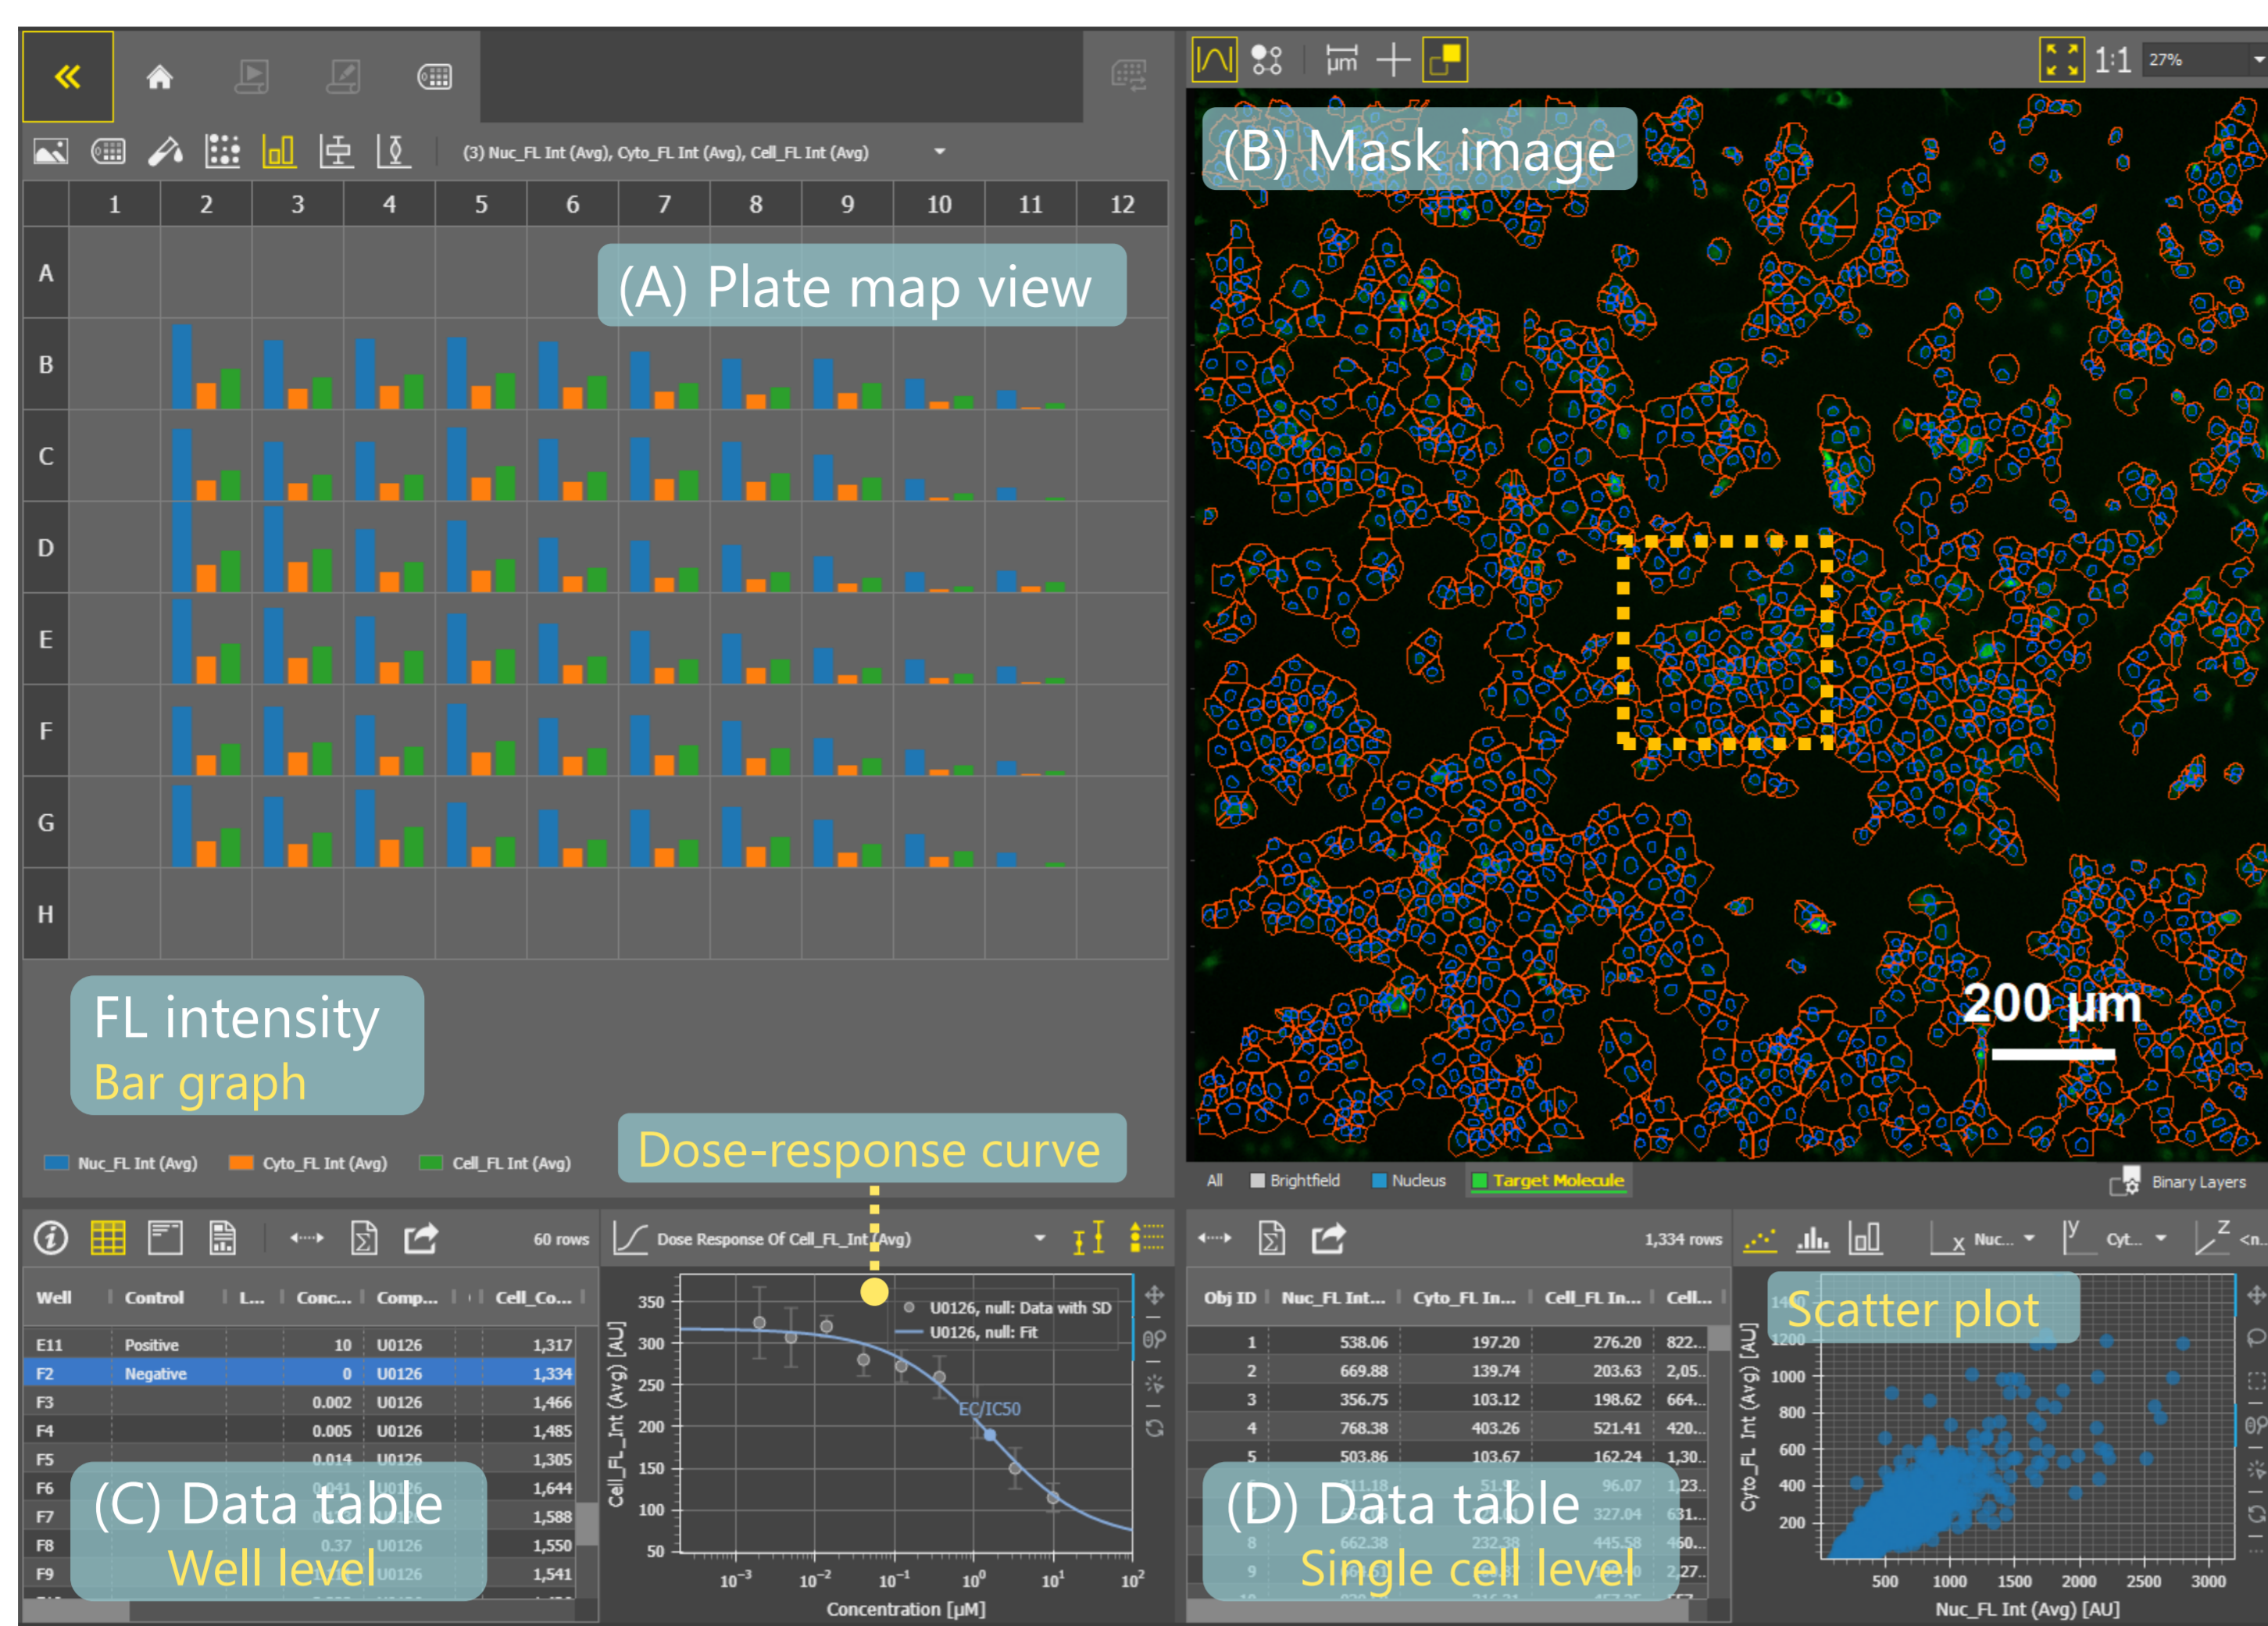

Fig. 2: Fluorescence intensity measurement results, Software with easy-to-analyze GUI
Enlarged image created by opening the image file in advanced mode and cropping the area of the orange dotted frame (0.31 mm × 0.31 mm) in Fig. 2. Upper row: control (untreated), lower row: treated with U0126 10 µM for 24 hours, (A) Merged image of brightfield and fluorescence (green: pMAPK) overlaid with mask outline (blue: nucleus mask, red: cell mask), (B) Immunofluorescence image of pMAPK, (C-E) Fluorescence image (green: pMAPK) overlaid with each mask, (C) blue: nucleus mask, (D) red: cell mask, (E) yellow: cytoplasm mask, Scale bar: 50 µm